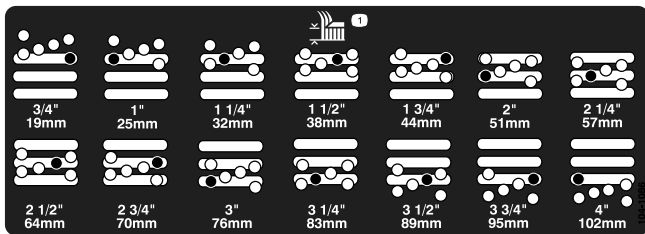

Figure 17
4. While supporting the chamber, remove the spacer (Figure 17).
5. Move the chamber to the desired height-of-cut and install a spacer into the designated height-of-cut hole and slot (Figure 17).